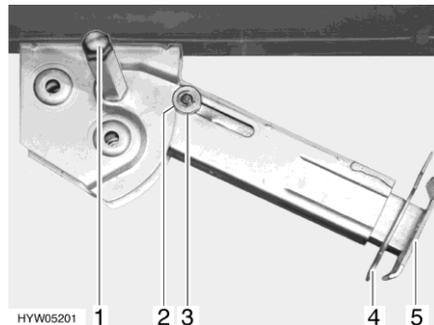

Fig. 36 Steady leg
- Place the socket spanner on the hexagon nut (Fig. 36,1) and rotate until the steady leg is in a perpendicular downward position.
- Remove the splint (Fig. 36,4) out of the support foot extension (Fig. 36,5).
- Place the socket spanner on the hexagon nut (Fig. 36,1) and rotate until the steady leg is clear of the ground.
- Push in the support foot extension (Fig. 36,5) and insert the splint (Fig. 36,4) in the drilled hole in the support foot extension.
- Rotate the hexagonal nut (Fig. 36,1) with the socket spanner until the steady leg has swung upwards and the guide disc (Fig. 36,3) has completely retracted into the notch (Fig. 36,2).